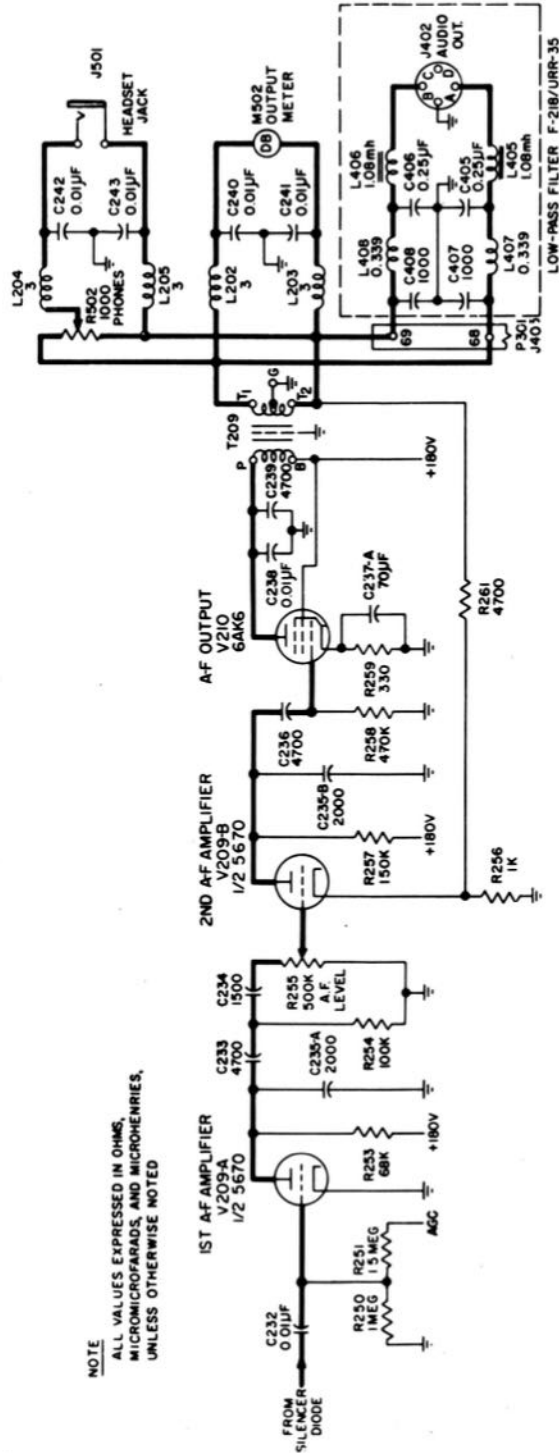

Figure 2-10. Audio-Amplifier Stages, Simplified Schematic Diagram
b. AUDIO FREQUENCY STAGES.—The audio frequency stages of the radio receiver, shown in figure 2-10, are conventional in most respects. The first and second a-f amplifiers, V209A and V209B, are the two halves of a type 5670 twin triode. The input signal is applied from the silencer diode through coupling capacitor C232 to the grid of V209A. Bias is applied to the control grid from the AGC source through a voltage divider, resistors R250 and R251. In the plate circuit, capacitor C235A attenuates the unwanted higher frequencies so that only the voice frequencies necessary to efficient communication legibility are amplified. The output of this amplifier is applied to a two-section high-pass filter which helps establish the lower limit of the 350- to 3500-cps audio passband. The filter is composed of capacitor C233, resistor R254, capacitor C234, and potentiometer R255. Potentiometer R255 is the A.F. LEVEL control. The signal is transferred through the adjustable arm of the potentiometer to the control grid of V209B, the second a-f amplifier.